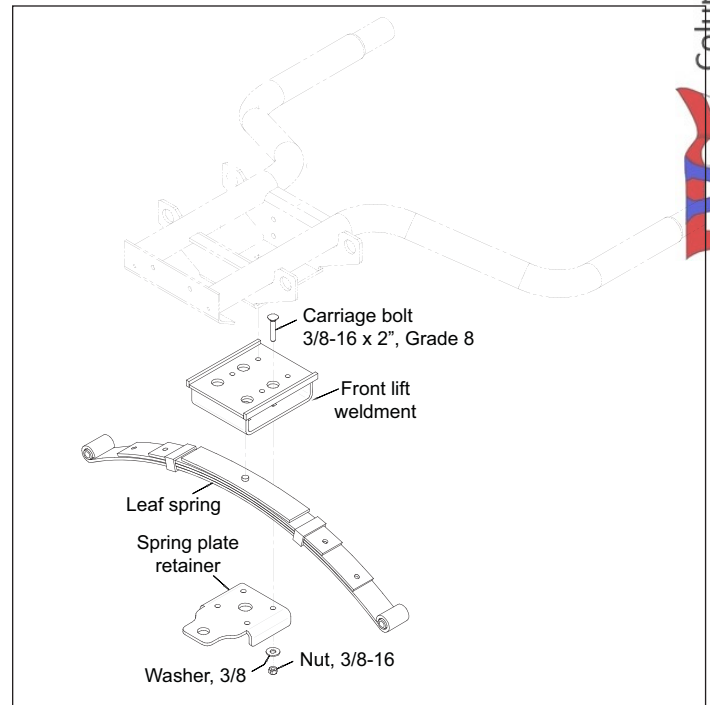

Figure 6-9. Replacing Leaf Spring
3. Remove carriage bolts and nuts securing leaf spring to front lift weldment (Figure 6-9).